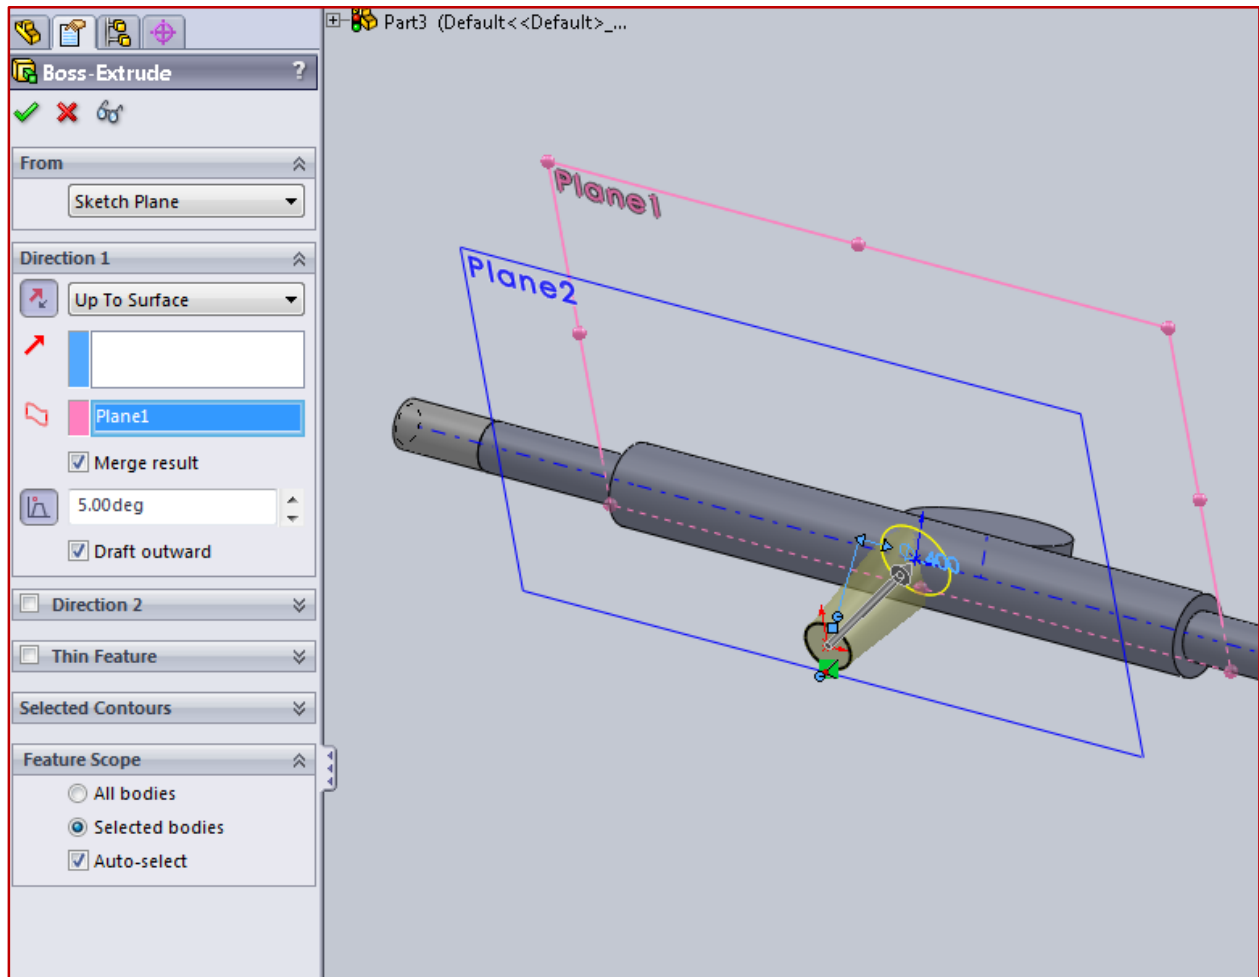

Figure 7.6 – Tapered Extrusion for Pivot
- ✓ With the sketch active on the design tree, use **Extruded Boss/Base** to create the pivot. Use the **Draft On/Off** option and type 5 degrees. Select **Up to Surface** for the end condition. See Figure 7.6. If necessary, you can toggle the draft to match the Figure.